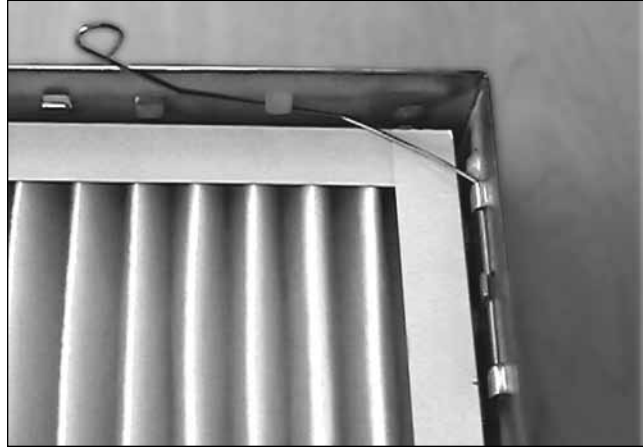

Figure 39 – Fully installed filter
6. The filter should now be securely installed into the frame (see Figure 39).